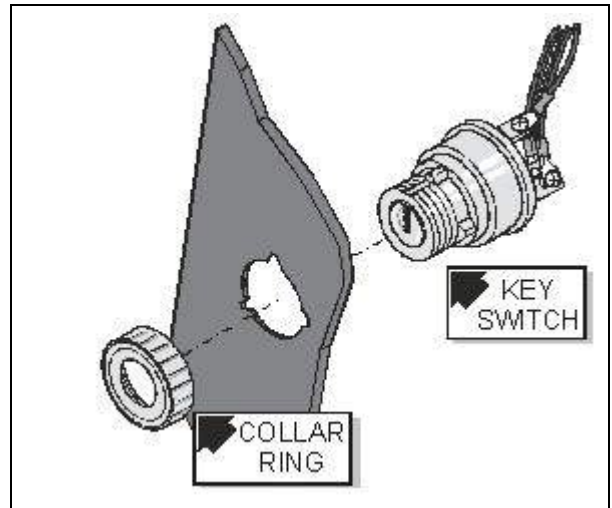

Figure 3-32: Keyswitch Installation
2. Unscrew the knurled switch collar ring to separate the switch from the base plate. See Figure 3-32.